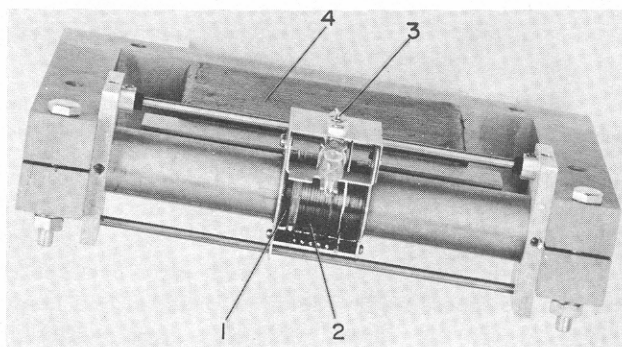

Figure 4.1. View of magnetic structure and pen motor.
The servo motor consists of a center-tapped drive coil (2, Figure 4.1) wound on a lightweight lucite form, which is positioned in the uniform magnetic field of an Alnico permanent magnet (4, Figure 4.1). The interaction between the current in the coil and the field from the permanent magnet is used to move the coil in a direction to reduce the error voltage. When the coil is correctly positioned, the error voltage and the current in the coil become zero, and there is no further force on the coil. Thereafter, any slight movement from the correct null position will produce an electrical restoring force on the coil. Full current flows through the coil for a displacement of less than 1/32 inch from the true null, resulting in a high degree of static accuracy (refer to paragraph 4.9). (This ability of the servo to provide full current in the drive coil for a displacement of less than 1/32 inch from null should not be confused with dynamic error. When the coil assembly is moving, velocity feedback reduces the servo loop gain and thus increases the error a proportional amount.)
**4.5 VELOCITY FEEDBACK.** A second winding on the drive-coil structure generates a voltage proportional to the coil velocity (see 1, Figure 4.1). This damping voltage is fed to the input of the dc amplifier to reduce the servo loop gain at high frequencies and the time constant of the drive-coil circuit. As a result, an adequate degree of stabilization can be obtained consistent with a reasonable bandwidth of the pen servo and the desired static accuracy. Slower writing speeds are obtained as the amount of damping voltage is increased.